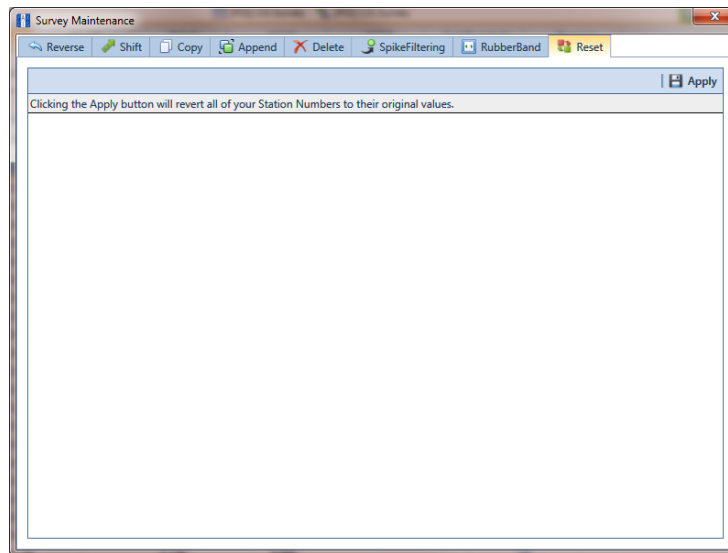

Figure 7-78. Reset
- 5 Click  **Survey Maintenance** to open the *Survey Maintenance* dialog box. Then click  **Reset** (Figure 7-78).